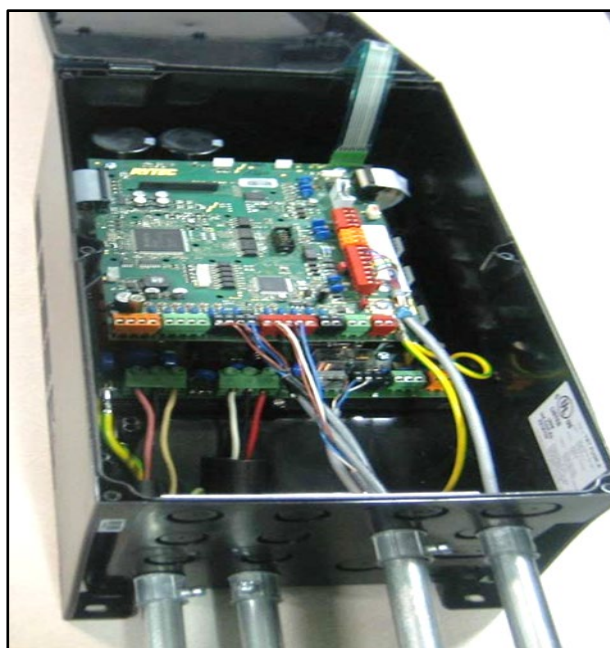

Figure 30
2. Open the door to the control panel. (See Figure 30)